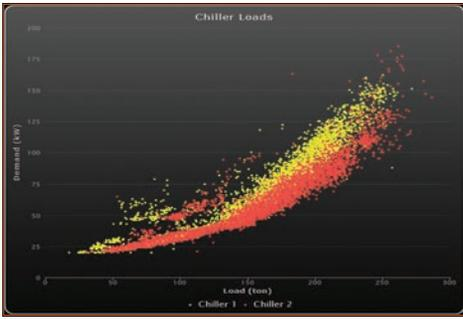

Figure 4: kW vs Cooling Load for two identical chillers.
3. Consider using scatter plots: Not all BAS systems offer scatter plots, but if your system includes them they can be a very useful tool for analyzing some systems. Figure 4 shows a scatter plot of the electrical demand (kW) vs the cooling load (tons) for two identical chillers. Performance of the two chillers was similar enough that looking